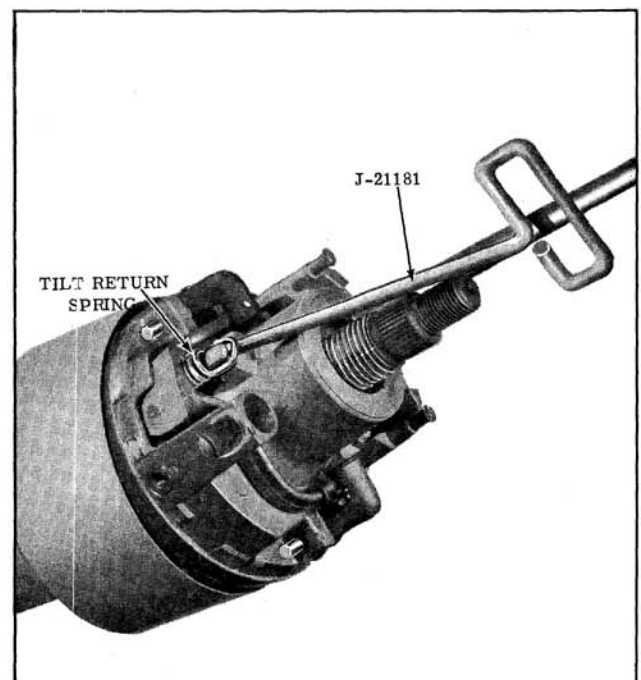

Fig. 8-115 Installing Tilt Return Springs
4. Install the upper ends of the two tilt return springs with Tool J-21181. (Fig. 8-115)